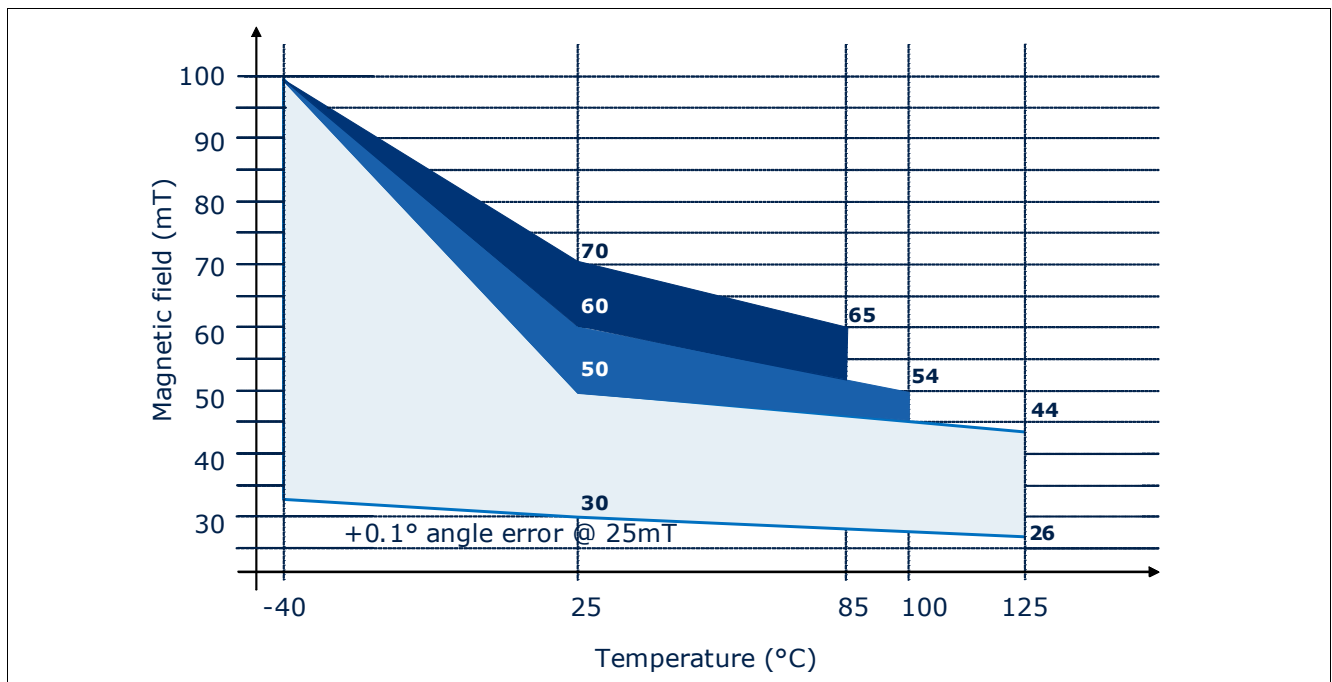

Figure 4-1 Allowed magnetic field range as function of junction temperature.
- 3) See Figure 4-1
The field strength of a magnet can be selected within the colored area of Figure 4-1. By limitation of the junction temperature, a higher magnetic field can be applied. In case of a maximum temperature $T_j = 100^\circ C$, a magnet with up to 60mT at $T_j = 25^\circ C$ is allowed.